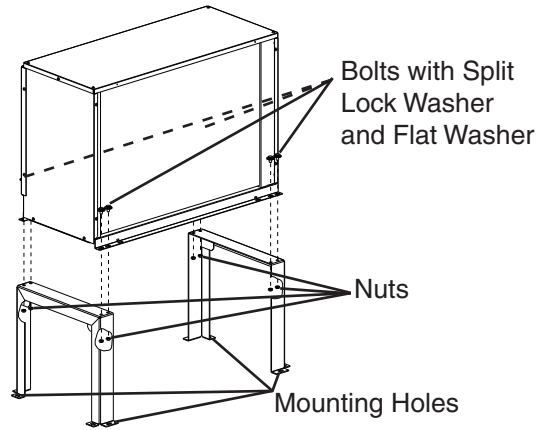

Fig. 11
- 1) Secure the legs to the remote condenser unit with the 8 bolts and nuts provided. See Fig. 11.